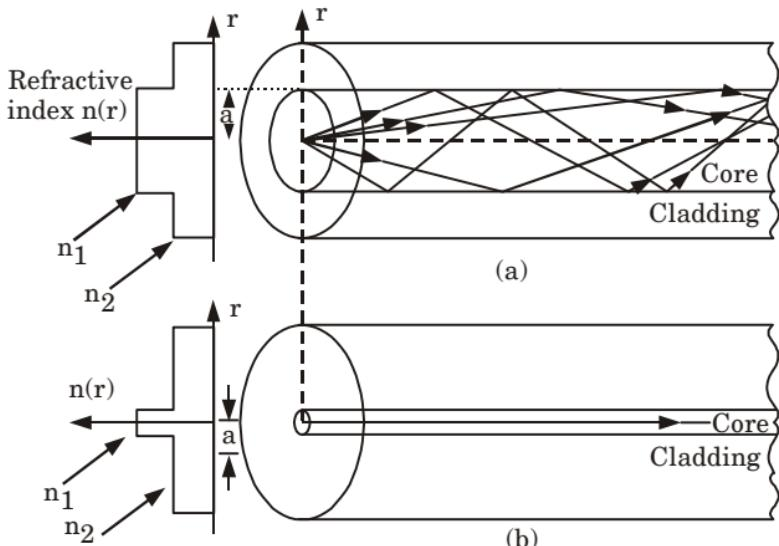

Fig. 15. The refractive index profile and transmission in step index fibers : (a) multimode step index fiber ; (b) single-mode step index fiber.
5. The Fig. 15 shows a multimode step index fiber and single mode step fiber. In multimode step index fiber core diameter is around 50 μm or greater, which is large enough to allow the propagation of many modes within the fiber whereas single mode step index fiber has a very fine thin core, so that only one mode can be propagated.